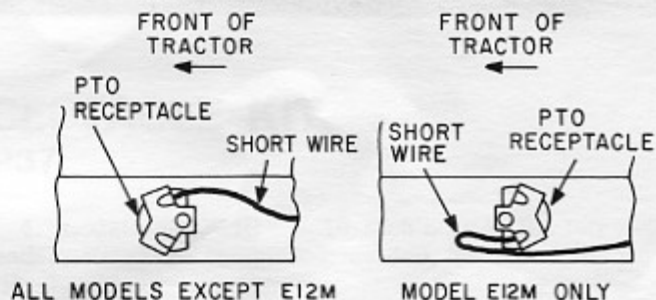

Fig. 7 PTO Receptacle Wiring
7. Install the stripped end of the short wire to the rear of the PTO receptacle with the existing wire in the position as shown in Fig. 7.